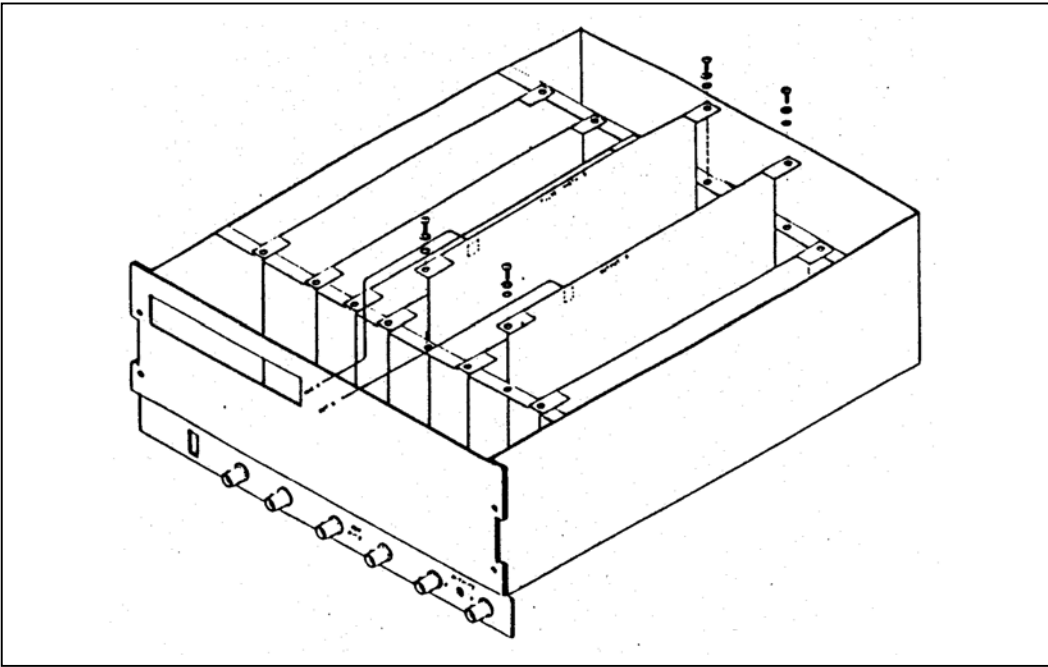

Figure 5-1. Channel B Option Field Installation.
2. Identify the empty slot for the pulse width/delay board as shown in Figure 5-1. The information is printed on the main board. Also observe that the plug in connectors, when plugged to the correct slot, fit exactly to the plugged board.